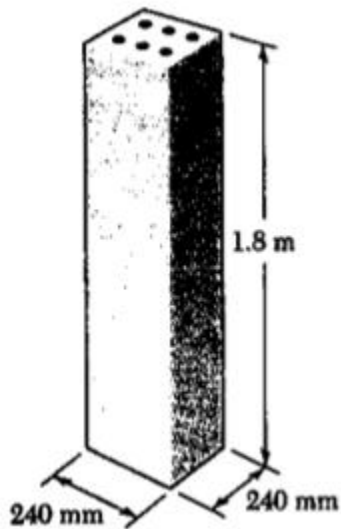

Figure 3
- c. Figure 3 shows a 1.8 m concrete post reinforced by six steel bars, each of 22 mm diameter. Given that the modulus of elasticity of steel, $E_s = 200\text{GPa}$ and the coefficient of expansion of steel, $\alpha_s = 11.7 \times 10^{-6}/^\circ\text{C}$. Determine the normal stresses induced in the steel and in the concrete by a temperature rise of $35\ ^\circ\text{C}$. **[10 marks]**